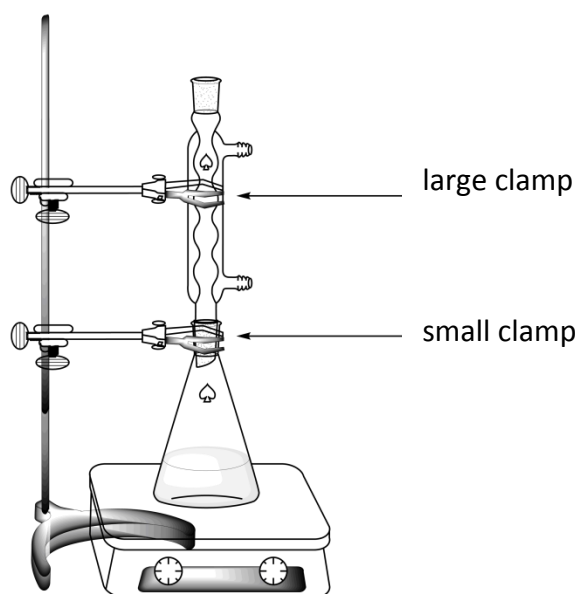

Figure 1. Setup for heating the reaction mixture under reflux
- Attach** the reflux condenser by loosening the large clamp and adjusting the ground glass joints (see Figure 1). **Raise** your HELP card. A lab assistant will come to turn on the water and set the hotplate.
2. **Recrystallise** the crude product contained in the 50 mL ground glass-joint Erlenmeyer flask with the appropriate amount (just enough) of this water/ethanol mixture. Use the same setup as for the reflux heating (see Figure 1). **Raise** your HELP card. A lab assistant will come to turn on the water and set the hotplate.